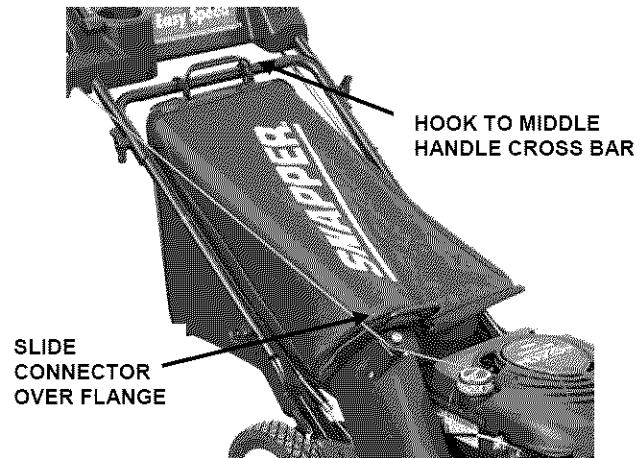

FIGURE 2.14
STEP 2: Install grass bag by sliding connector over adapter flange. See Figure 2.14.
STEP 3: Attach grass bag hooks over middle handle cross bar. See Figure 2.14.